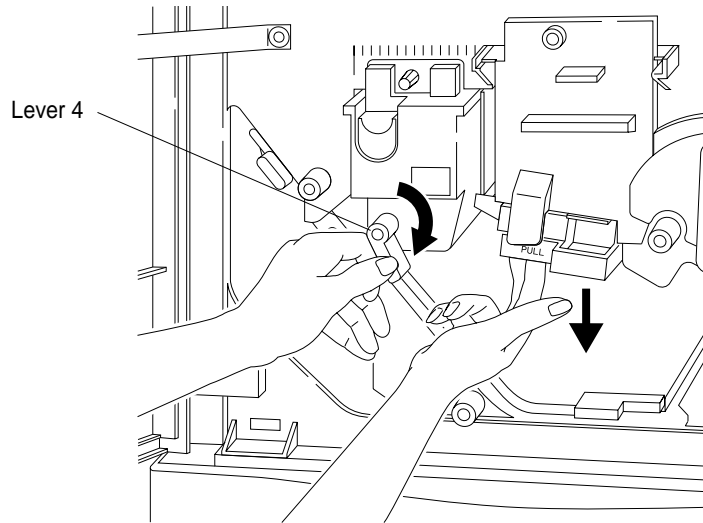

Figure 3-50 Lowering Transfer Assembly
1. Open the front door and lower the Transfer Assembly, as shown in Figure 3-50.
2. Turn Lever 4 fully clockwise (straight down) until stopped to relieve tension on the paper, as shown in Figure 3-50.